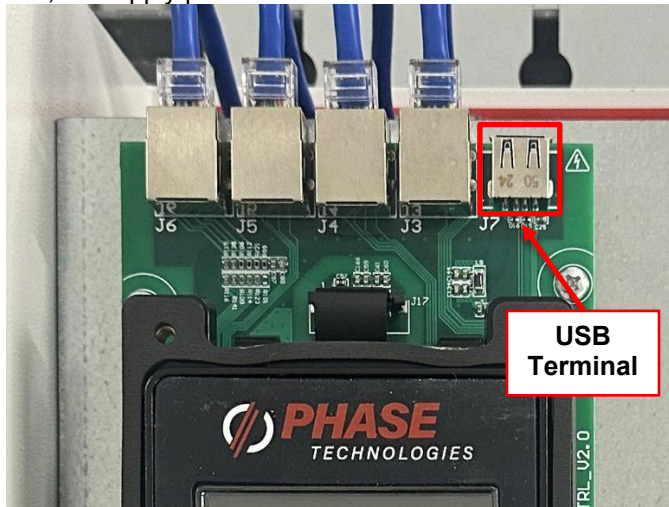

Figure 13 – USB Terminal on Drive Control Board
- With the drive powered off, locate the USB terminal on the control board. **Figure 13** below shows the USB terminal on a control board. Insert the USB device into the terminal, replace the enclosure cover, and apply power to the drive.